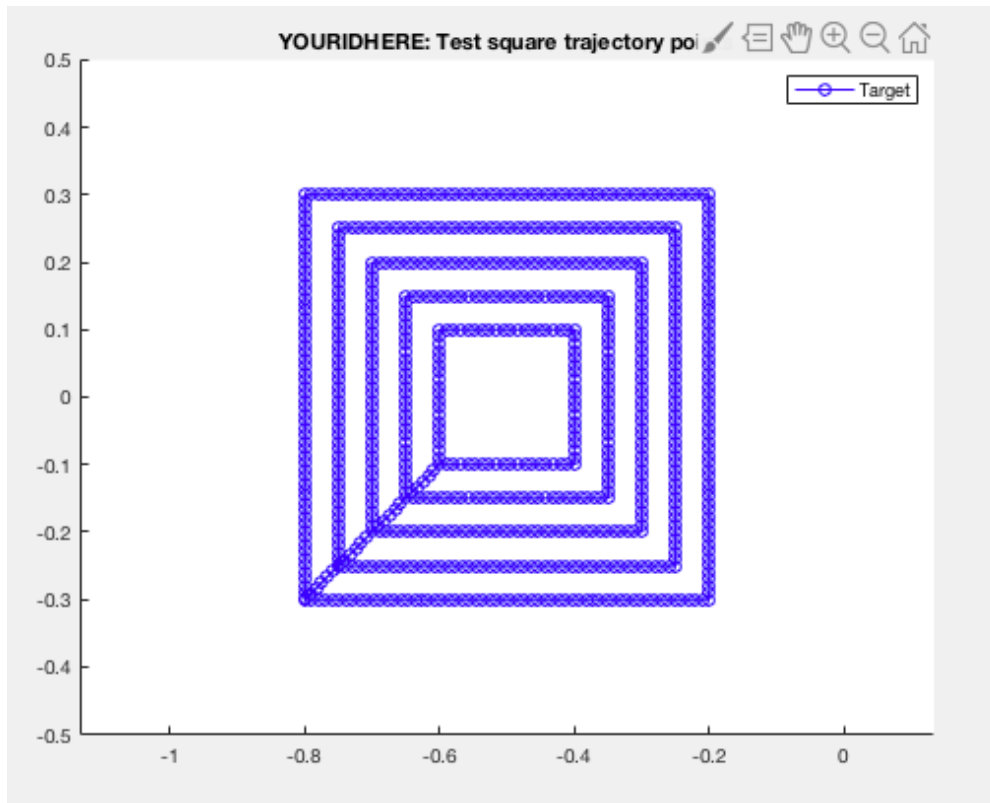

Figure 4. Target trajectory centred on the area of the workspace our 2-D revolute arm can reach:
- Plot the (x,y) value you will get something like the following plot (**Fig. 4**)) that is a trajectory centred on the area of the workspace our 2-D revolute arm can reach